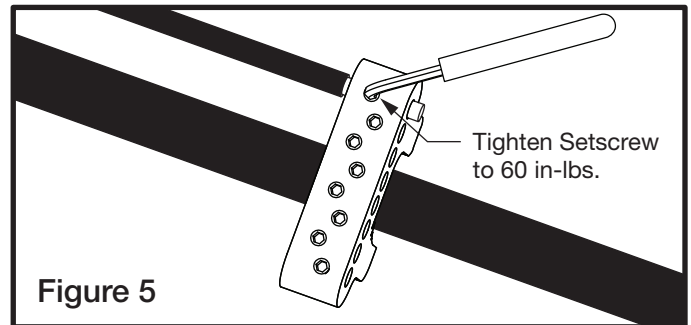

Figure 5
- 5) Once installed, tighten setscrew on back of connector to 60 in-lbs. (see Figure 5).